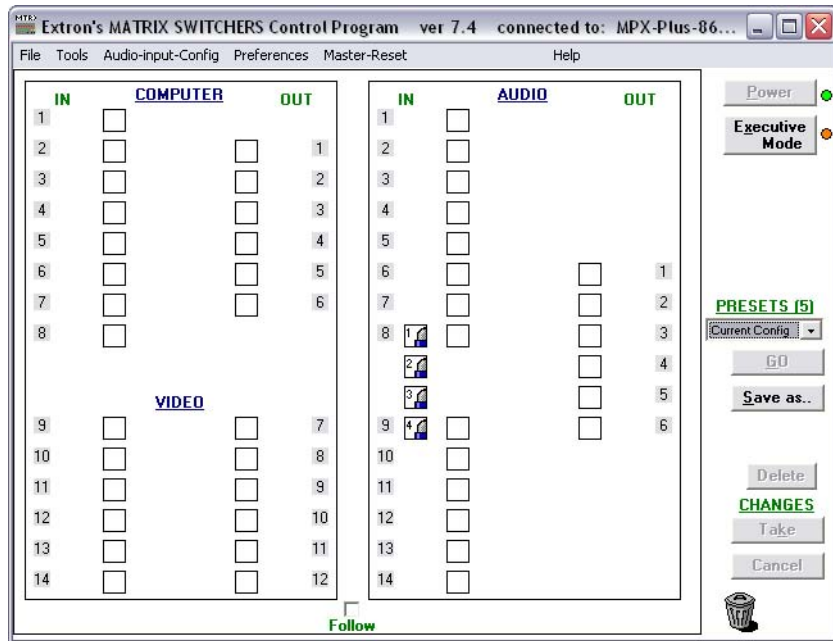
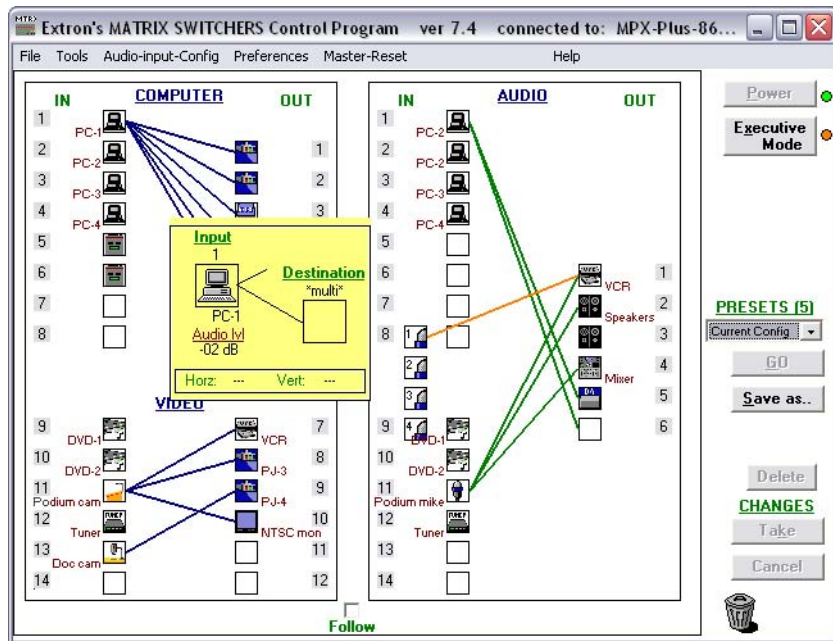

Figure 5-24 — Sample Program window (no icons or ties)
Figure 5-25 — Sample program window (icons assigned and ties made)
4. The Extron Matrix Switchers Control Program window (figure 5-24 and figure 5-25) appears. The window displays the current configuration of the attached matrix and provides a way to make or break ties.
- For quick display of information on a specific input or output device, position the cursor over that device in the control program window. The program opens a window that details the connections to that device, the audio level, and, for outputs in the computer video group only, the switching interval (RGB delay) and the frequency of the video signal input from or output to that device. See the inset box in figure 5-25.